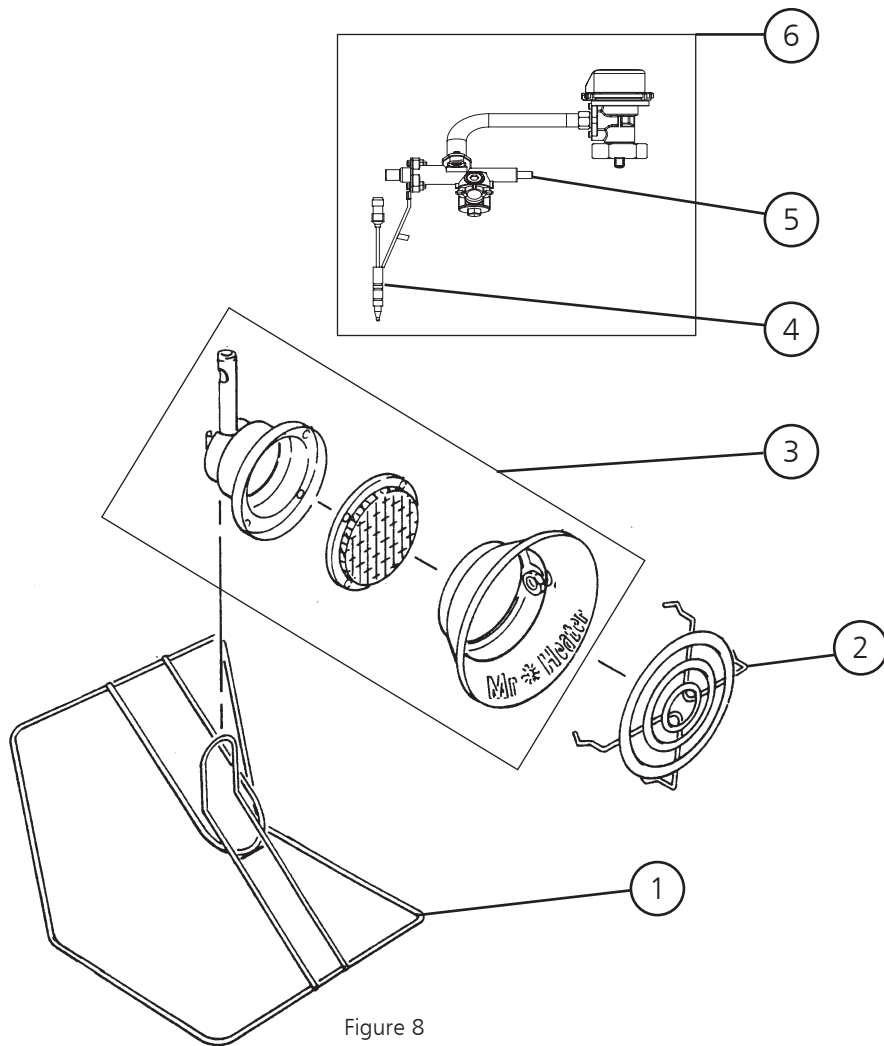

Figure 8
- E. See Figure 8 for replacement parts list.